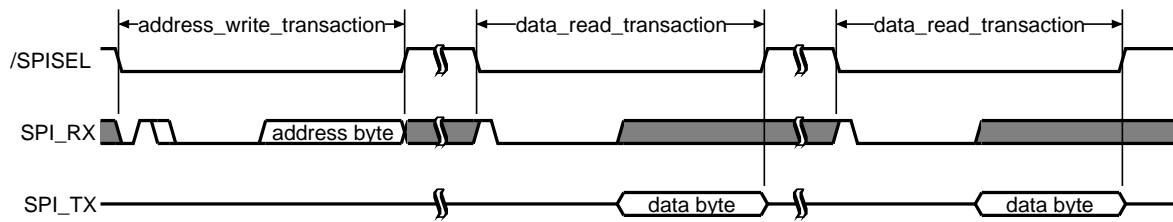

Figure 2.18: Multiple read accesses to the same register
2. It is allowed to execute multiple data read transactions to the same register address without address write transactions in between. This is shown in Figure 2.18 and is typically used for receiving FIFO data.